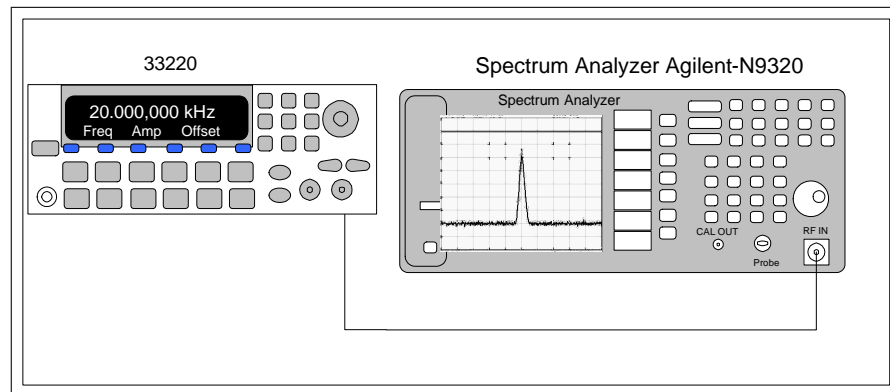

Figure 19 Setup for measuring signals, logarithmic and linear mode, and Minimum and Maximum hold measurement
1. Connect the system as indicated in Figure 19.
1. Add 1.9MHz Elliptic LPF to the input of the Spectrum Analyzer and connect the equipment as shown in Figure 19.